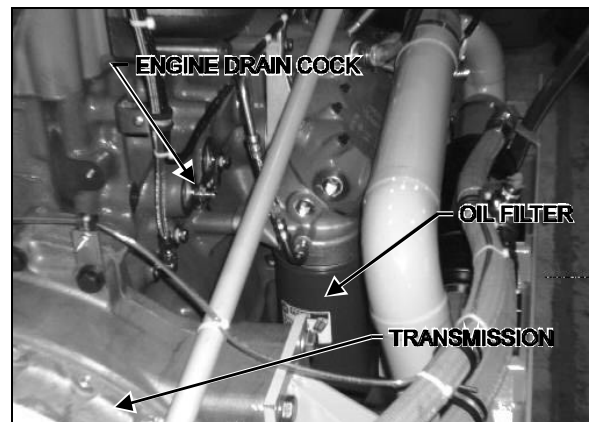

FIGURE 7: RIGHT REAR CORNER OF ENGINE 05027
3. Open the drain cock located at the right rear corner of the engine (Fig. 7).